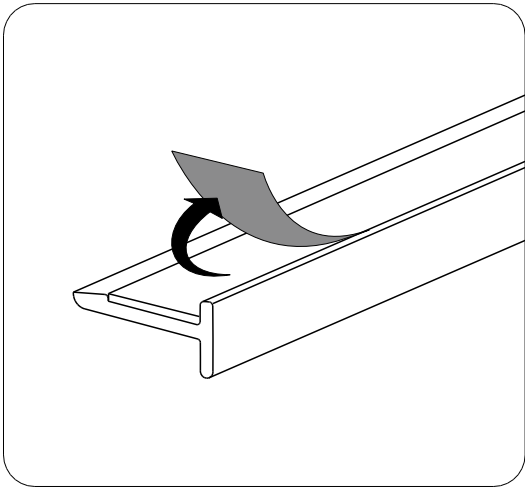

Fig 4
1. Tear off the tape from the **Bottom Rail [03]**. (Fig 4) Place the **Bottom Rail [03]** onto the threshold by referring to the position of drawings on the bottom of templates. (Fig 5)